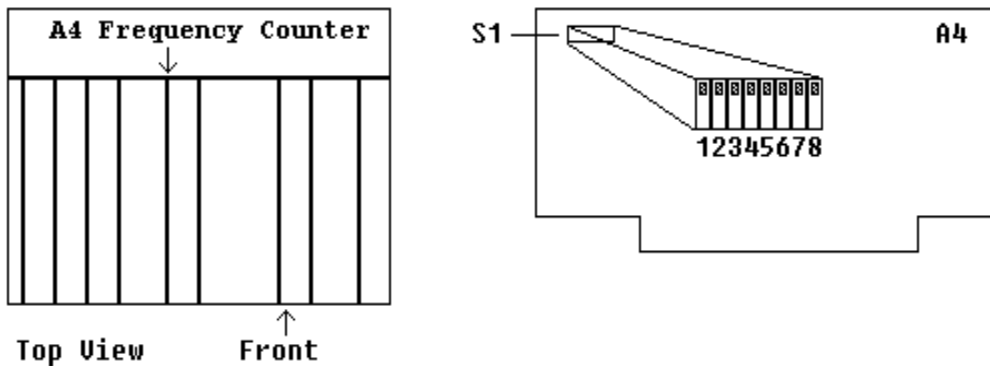

Figure 1. A4S1 - switch location.
a. Remove TI top cover and assure A4S1 switch segments are all in the up position as shown in figure 1. Note initial settings (if not up) for return after completion of procedure.